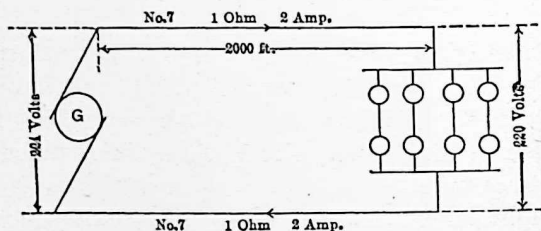
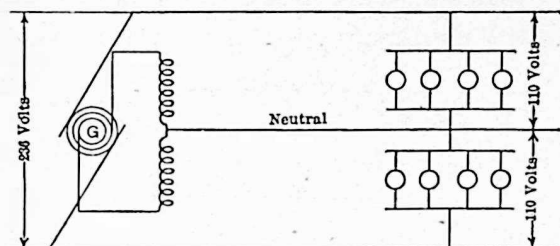

FIG. 91. Two-wire system. The two line wires each carry 4 times the current of each lamp.
FIG. 92. Three-wire system. Each outside wire carries 4 times the current of each lamp. The neutral carries no current in this case.
Suppose that we now arrange these same lamps as in Fig. 91. By placing two in series in each case, each lamp
It would require  $8 \times 2$ , or 16 volts to send the 2 amp. of Fig. 91 through this line.
To avoid this bad feature and still retain the advantage of transmitting at 220 volts, a third wire, called a **neutral**, has been added to the arrangement in Fig. 91, which produces the three-wire system, as shown in Fig. 92.
**50. Voltage Distribution in Three-Wire System.** In using the three-wire system, every effort is made to keep it balanced. In this case, the voltage, current and power distribution differ in no respect from that of a two-wire system, with lamps, or other electrical appliances, paired off, two in series, as in Fig. 91.